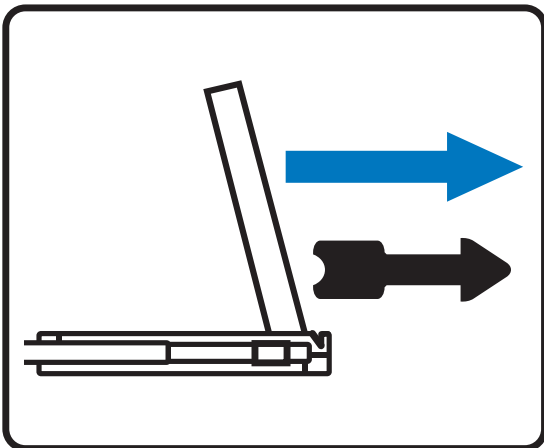

Figure 8.
- Pull and hold the black arrow button on either side of the LCD drawer to unlock. (shown in **Figure 8**).